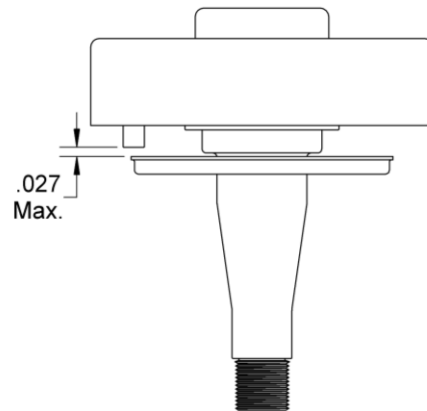

Figure 7 – ABS Sensor & Tone Ring Gap
8. Check physical gap between the sensor and tone ring (**Figure 7**). The maximum allowable gap is .027 inch. If the gap is greater than .027 inch, press on the wire lead end of the sensor and push the sensor into contact with the tone ring. Check that the ABS spring retainer and bushing are not unseated. Re-seat components as needed.